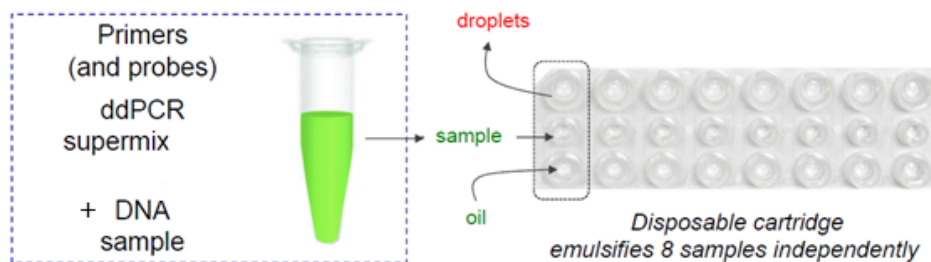

Figure 1 : DG8 cartridge filling
- Dispense the following volumes into the corresponding cartridge compartments (Figure 1):
- With the multi-channel pipet, transfer slowly  40  $\mu\text{L}$  of droplets generated from the top line of the cartridge (Figure 1) into the ddPCR 96-well plate.